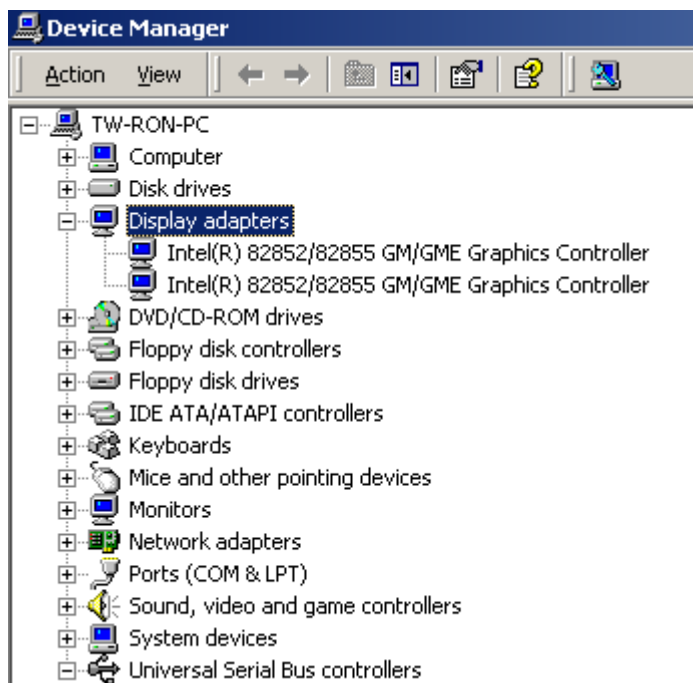

Figure 6-7: Expand the Display Adapters Category
Step 5: Expand the **Display Adapters** category (**Figure 6-7**). Right click the adapter and select **Properties**.